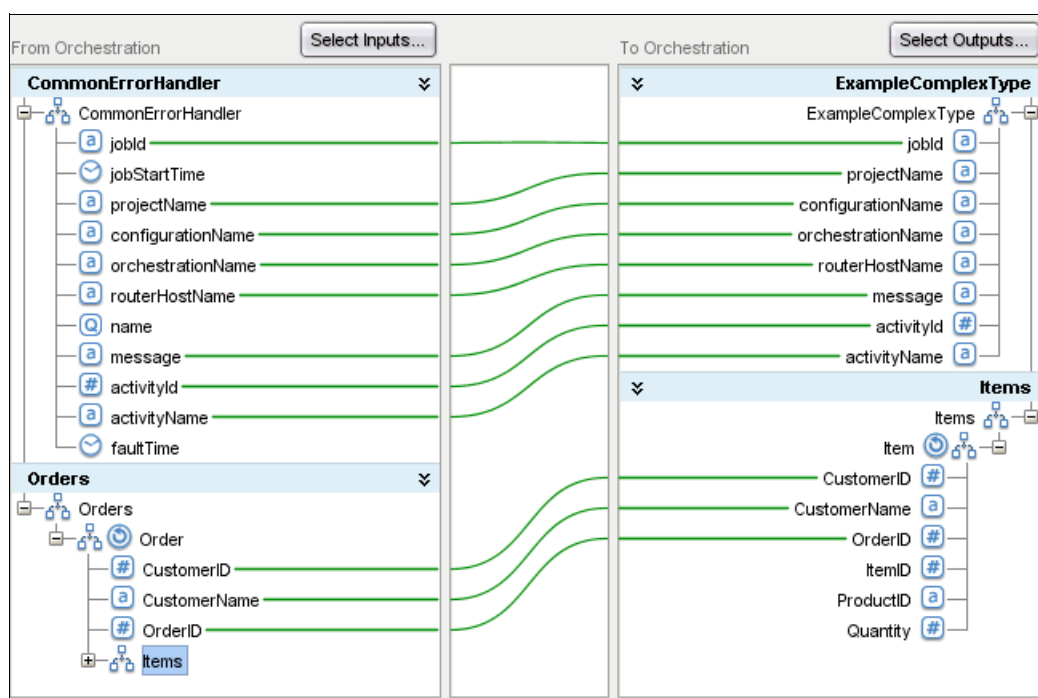

Figure 3-98 Some mappings in a standalone map
- Define mappings using the mapping editor. You can use simple mapping, default values, and functions in a standalone map. Figure 3-98 shows an example of a standalone map with some mappings.